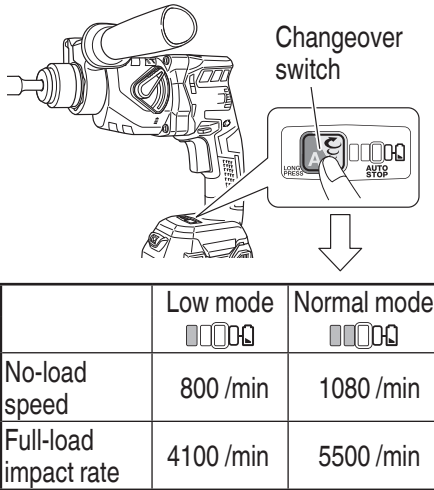

Fig. 26
- Rotation speed (Low mode/Normal mode) (**Fig. 26**)